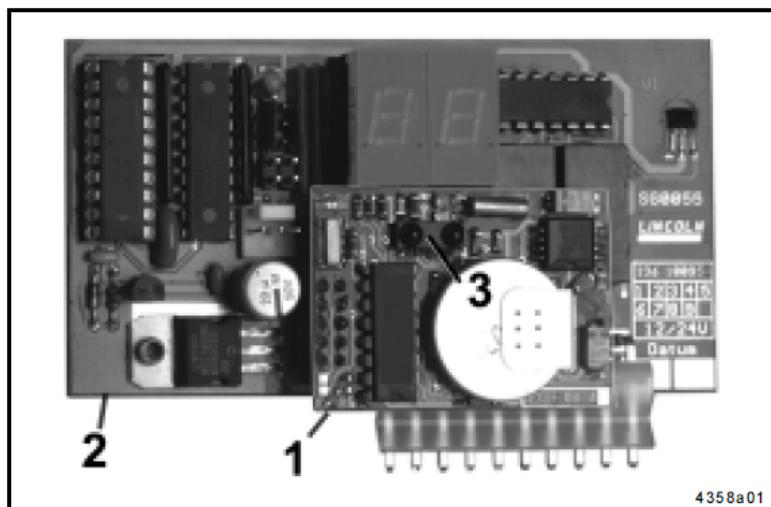

Fig. 3 - Control p.c.b. MDF 00 with built-on data logger
- The control is installed in the housing of the pump behind the membrane key pad as an integrated printed circuit board MDF 00 (2, fig. 3).
- The data logger (1) is fixed onto the printed circuit board.